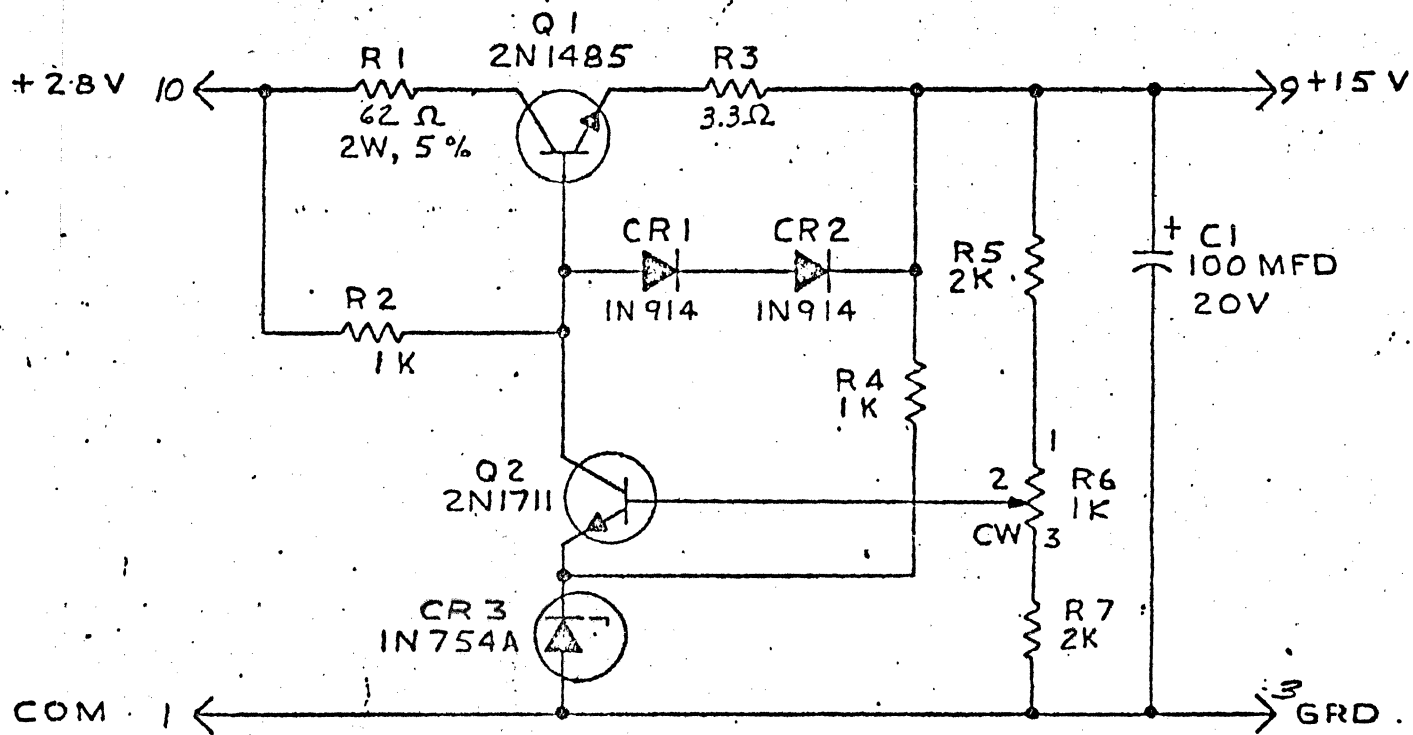

Figure A3-4
**A3.4.5**      Equalization Select Circuits.      Proper high-frequency equalization circuits are selected, automatically, with tape speed selection, by grounding one of the speed select lines (pins 5 thru 10). When the 60 ips tape speed is selected, for example, ground is provided at pin (7) of the Reproduce Amplifier. This causes transistor Q12 and Q13 to conduct, providing a ground return path to the 60 ips equalizer, through resistor R94. Transistors Q14 thru Q23 perform the same switching function for the 30 thru 1-7/8 ips high-frequency equalization networks, when their respective speed select lines are grounded.
**A3.5**      +15-VOLT VOLTAGE REGULATOR (85003001).      Refer to Figure A3-4. A +15 Vdc Voltage Regulator is installed in each of the two RAM units to provide regulated operating voltage for the seven dual-channel preamplifiers. Power transistor Q1 is a series-regulator operating directly from the +28 Vdc primary power source, supplied to pin 10 of the regulator printed wiring board. The +15 Vdc output voltage is sensed across a voltage divider network consisting of resistors R5, R7, and variable resistor R6, and applied to the base of control transistor Q2. Transistor Q2 compares the sampled output voltage, from the center arm of R6, with a fixed reference voltage developed across zener diode CR3, and develops an output signal proportional to the difference, to drive the series regulator Q1. Zener diode CR3 and transistor Q2 have opposite temperature coefficients to compensate for changes in operating temperature. Diodes CR1 and CR2, connected between the emitter and base of transistor Q1, protect the transistor from current surges.